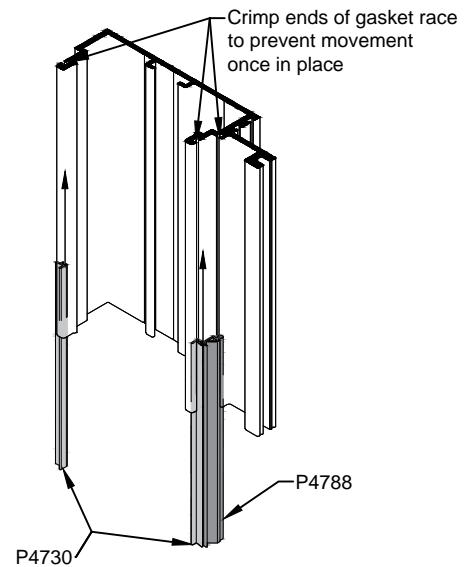

Fig. 38.1
- A. Install P4730 wiper gasket continuous into the front and back of each male vertical member. Crimp the ends of the mullion to lock the wiper gasket in place. See Fig. 38.1.
- B. Install P4788 air seal gasket continuous in the front of each male intermediate vertical. 'Ping' metal to crimp gasket in place. See Fig. 38.1.